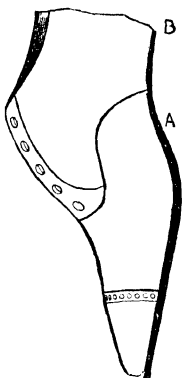
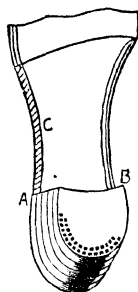
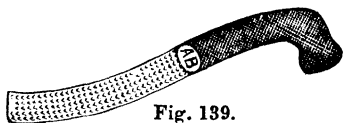
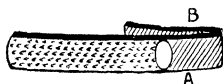

Fig. 137.—Paring Waist and Buffing Edge.
Fig. 138.—Peening Waist and Breaking Heel Corners.
Fig. 139.
Fig. 140.
up, as Fig. 137, the edge of the sole is now knifed-up with the knife in the right hand, the point only between the thumb and finger, as shown by B (Fig. 95, page 90), commencing at A (Fig. 137), and going round to the joint on the other side. Only little shavings are taken off, for the sole has been already shaped; all that now remains is to make the edge quite square.
To prepare for knifing-up the waist, the corners A and B (Fig. 138) must be well knocked down by means of a corner-beater or welt-beater, which is made by heating an old file, turning it back for about a third of the way, and while hot beating it up square, at A and B
(Fig. 139), on the lap-iron, with a hammer. Another form for a corner-beater is shown at Fig. 140. When it is the shape required, heat it again, and put it into cold water, and when dry, brighten it a little with emery cloth and temper it by reheating till the brightened part turns blue.
The corners are knocked down by putting a corner-beater (Fig. 140), right into the corner of the heel and waist, at A or B, and hammering it well down until a decided corner is made to the heel. While this is being done, the boot is held in the position shown by Fig. 138, by the stirrup, firm upon the knees. Then hammer each side of the waist with the peen end of the waist or cramp hammer; this will knock the edge of the waist over, to cover the stitch, and also make it lie closer to the upper. This process will leave marks at C; but a second row of taps, made with the peen of the hammer held so that these lines shall cross the others, will make the edge more even, and also very firm at the side of the stitches. The waist can now be hammered along each
The top of the top piece of the heel can be well filed with the file side of the rasp. The boot is held between the knees, in the position of Fig. 138, or reversed with the toe towards you; it must be held very firmly, with the
Sand-papering is the next process, and a troublesome one it may prove if the sand-paper is not soft, even, and used in the proper place. To do the sand-papering of the sole, the boot can be held in the position of Fig. 137 for the last half, and in the reverse direction for the first half. A sheet of sand paper costs a penny, and folded uniformly it will make sixteen handy pieces. Double one of these rough side out, and hold it between the thumb and finger, as the buffing-knife in Fig. 145, except that the three fingers and the forefinger are closed in the palm of the hand, holding the paper between the thumb and the knuckle of the forefinger, and so far from the edge as to leave the paper under the thumb only. Supposing *D* to be the sand-paper, the folded edge should be at *B*, and being used upon the forepart, this edge must be nearest to the upper; but it must not touch it, nor must the hollowness in the edge be in the least interfered with.
When the edge of the waist was peened as at c (Fig. 138), the process ought to have knocked the welt very close to the upper. With the boot in the position shown in Fig. 137, hold the knife upright, and, commencing at the heel, and coming down to where the sole begins to get thick (A), cut away the edge of this welt in the waist. It will be only a very narrow strip, and as it was skived very thin, it will not be hard to cut. You must not cut very near the stitches, and take care not to slit the upper. With the boot in the reverse position, the same process is done on the other side in the same way,
only this is done so that the sole c (Fig. 138) shall itself form the edge of the waist, which will then be solid.